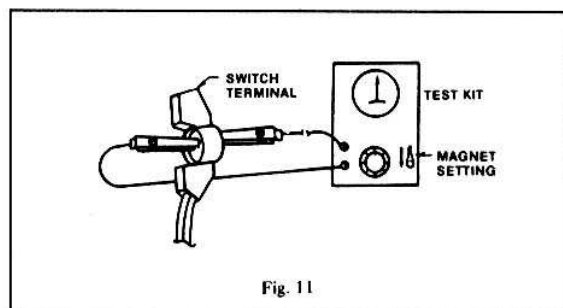

Fig. 11
- b. With Test Kit on "Magnet" setting and dial set for maximum amperage, check for switch closure and continuity through the switch by touching clips to opposite switch terminal contacts as shown in Figure 11.
- (1) If switch is closed, essentially full amperage reading will be obtained (approaching maximum needle deflection to the right).
- (2) If switch is open, no current will be shown (no meter needle deflection).